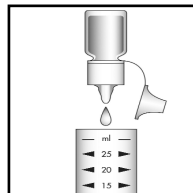

Figure 2
2. Add 5 drops of A-6000 Activator Solution (fig 2). Stir briefly with the tip of the ampoule to mix the contents of the sample cup. Wait **1 minute**.